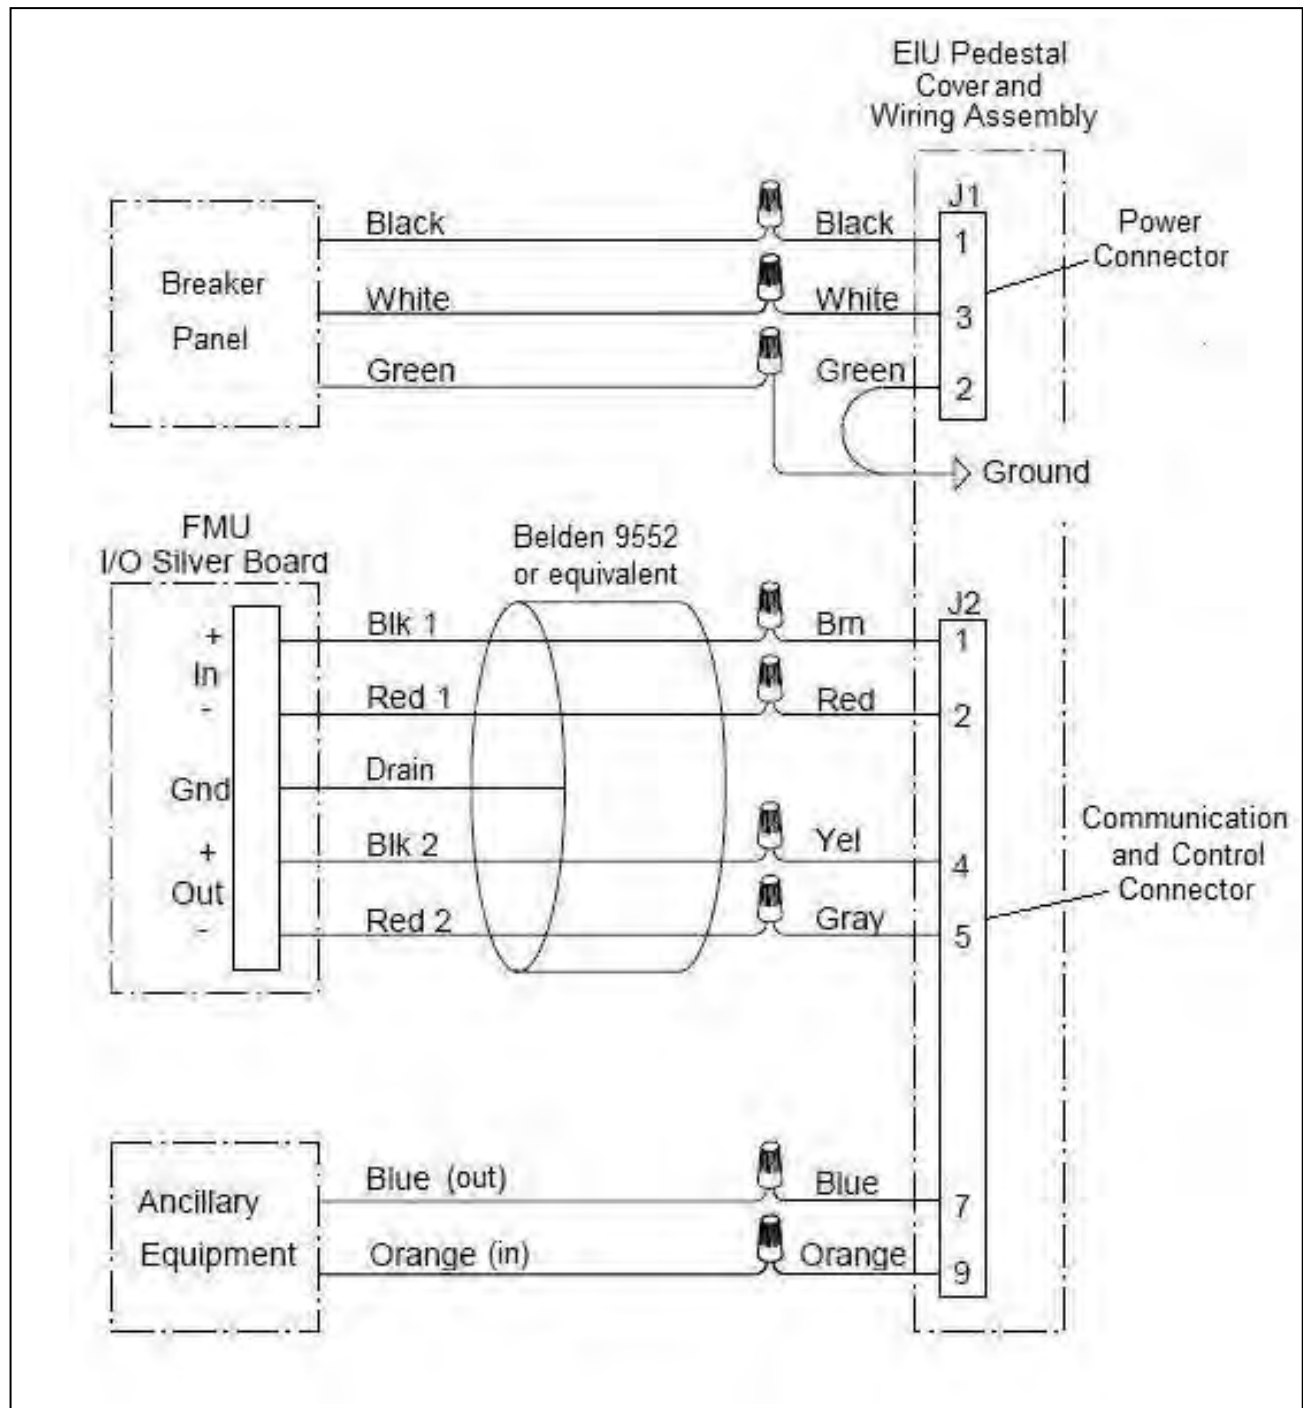

Figure 4-27. EIU Wiring
- c. **Control of Accessory Controller.** Pull two 14 AWG THHN wires from the EIU to the accessory controller. The wiring diagram in Figure 4-27 calls out blue and orange, but any color may be used which are easily identifiable when making the wire connections. Ensure approximately 3 feet of excess wire is extending from the conduit to facilitate wire connections after EIU installation.
9. Position the Pedestal Cover and Wiring Assembly up to the Pedestal, then make the wire/cable connections with wire nuts in accordance with Figure 4-27. Figure 4-27 depicts wire colors that may not match the wire/cable in use. Note the wire colors connected to J2, pins 1, 2, 4, and 5. These wires must make specific pin connections to the I/O Silver Board in the Master FMU.
9. Refer to the wiring diagram in Figure 4-27, and the wire connections noted in step 9 under **Mounting the Pedestal**. Connect the Master FMU/EIU communications cable routed from the EIU Pedestal Cover and Wiring Assembly to a 5-pin connector of the I/O Silver Board receptacle selected in step 6: